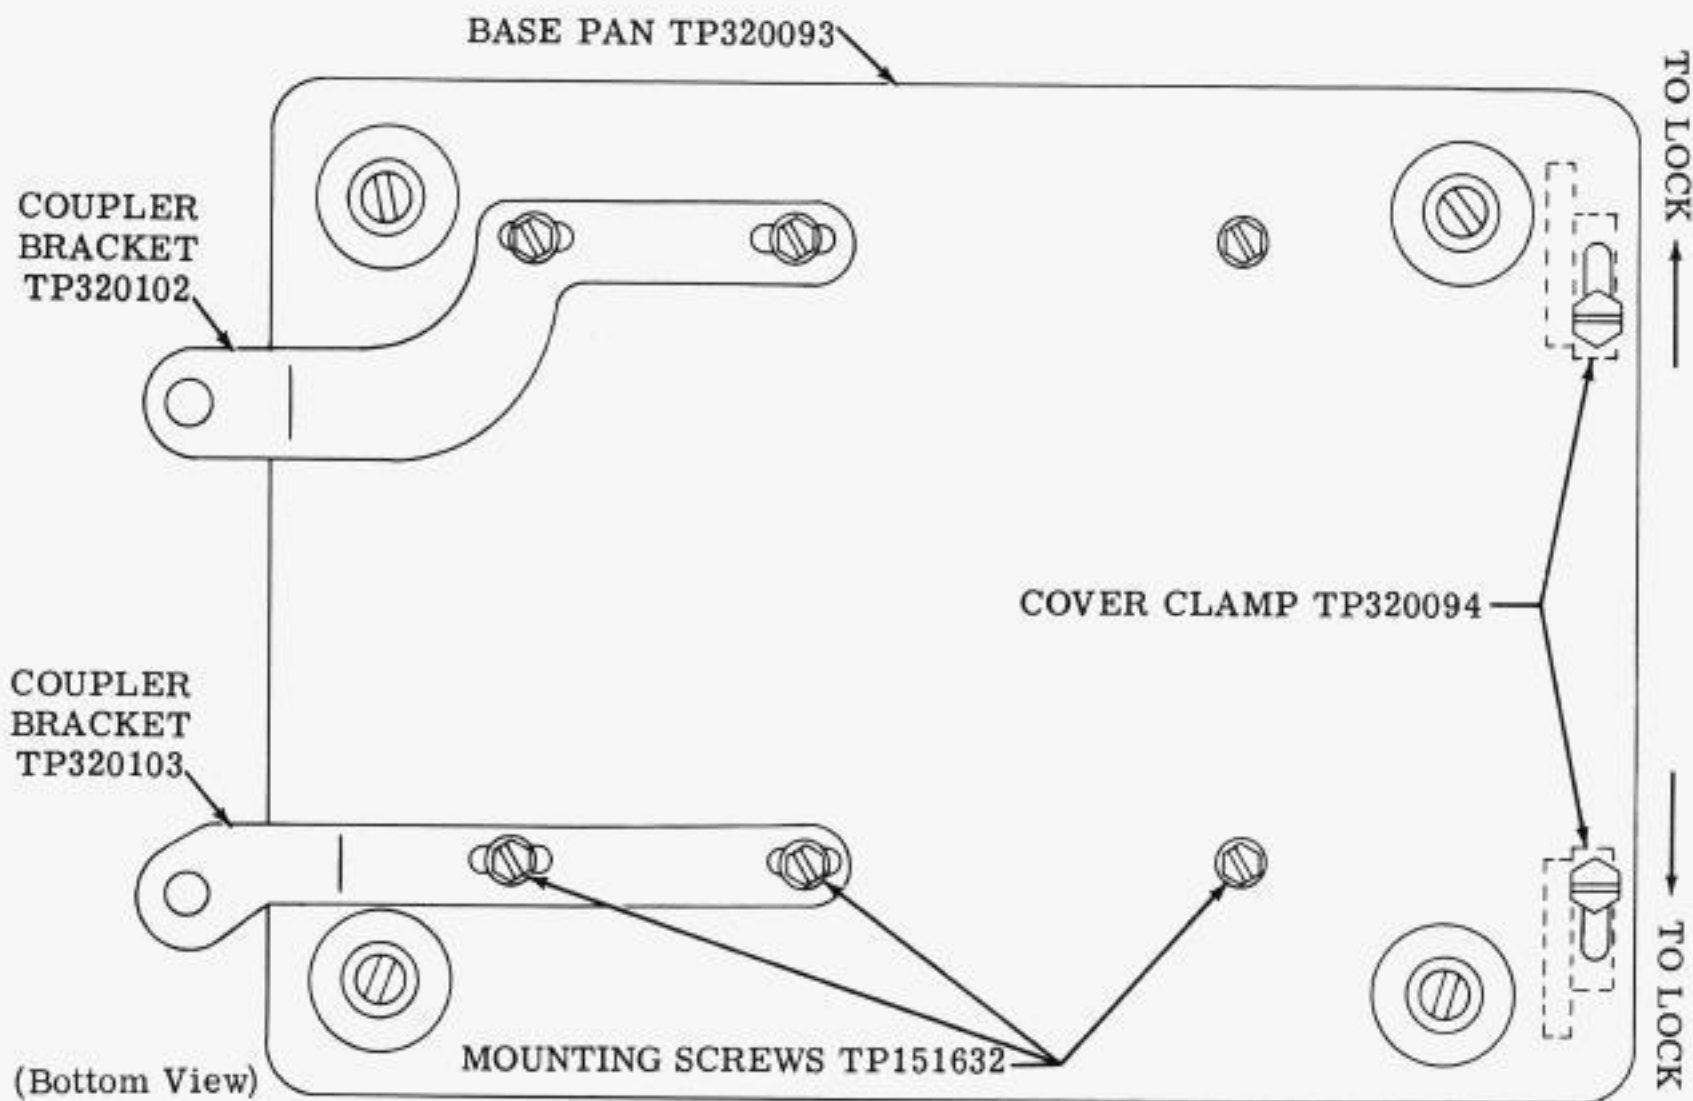

Figure 5 - Feeder Base Pan and Coupler Brackets
- 2.05 The two coupler brackets TP320102 and TP320103 attach to the feeder base pan TP320093 with four screws TP151632, lock-washers TP2191, and washers TP7002 (Figure 5).